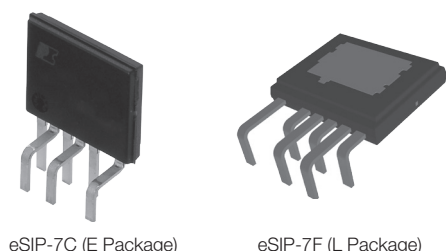

Figure 2. Package Options.
6. Package: eSIP-7C, eSIP-7F (see Figure 2).